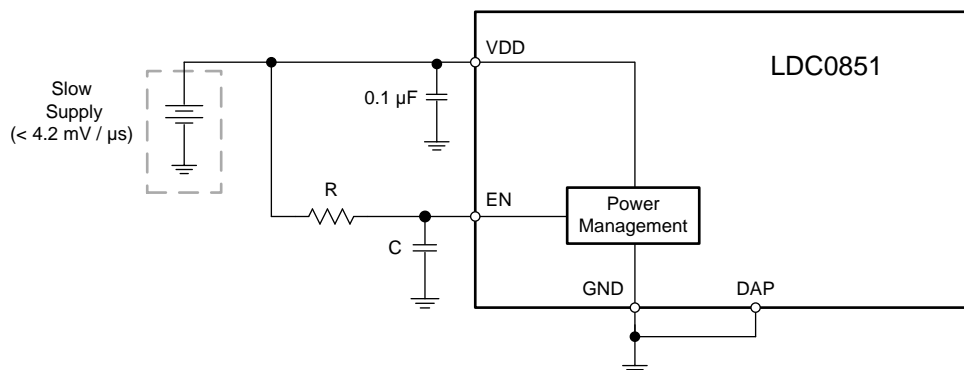

Figure 33. Supply Connections for Slow Ramp Rate
For supply ramp rates slower than 4.2 $\text{mV}/\mu\text{s}$, an RC low pass filter must be added to the enable input (EN) as shown in Figure 33. Alternatively, the EN pin may be tied to a nanotimer or microcontroller to wake up the LDC0851 after VDD has ramped to its nominal value.